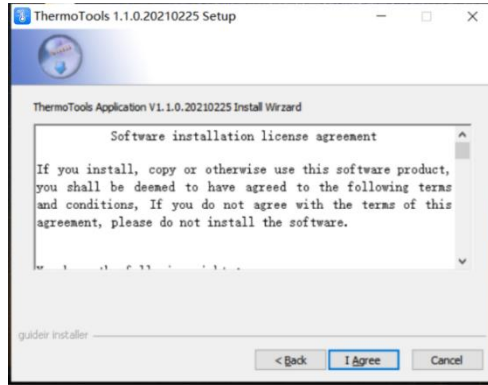

Figure 2-3 Installation License
3. Click “Next” to enter the software installation license agreement interface, as shown in Figure 2-3. Clicking “Cancel” will end the installation.